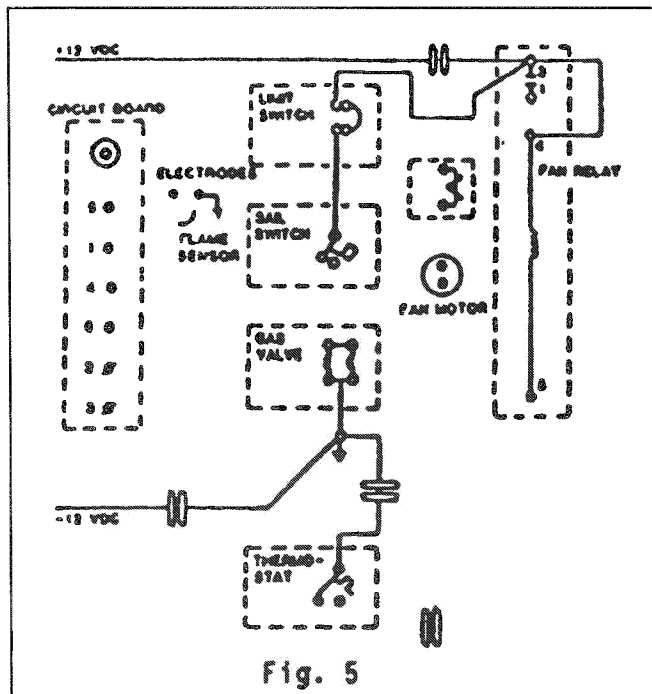

Fig. 5
- A. On stand-by the + 12 VDC is connected to terminal #3 of the fan relay which is closed. The voltage will extend (1) through the red wire to terminal #1 of the open fan relay, (2) through another red wire to the limit switch, (3) through the limit, (4) through the red wire to the sail switch. See Fig. 5.